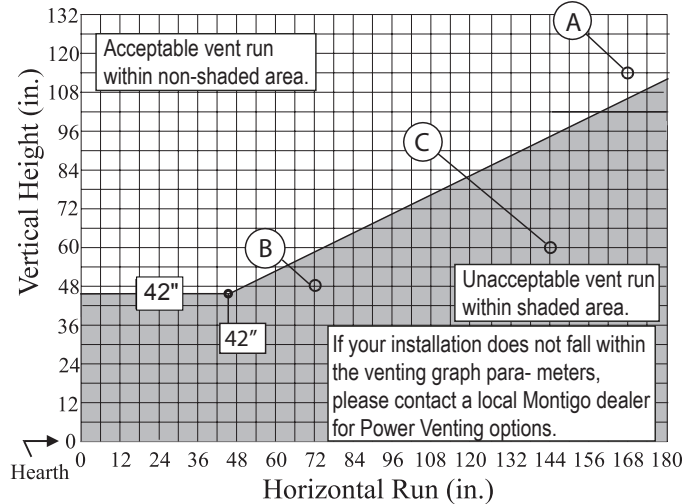

Figure 12. H*38DF* Top Vent Venting Graph for wall mounted terminations.
- Once the proposed venting layout has been determined refer to **Figure 12 or 14** to ensure the layout is acceptable.
- Venting runs *must* fall within the limits set by the venting graph, see **Figure 12**.
Measure the vertical height from the fireplace hearth to the centre of the termination and the horizontal run from the fireplace flue collar to the wall flange of the termination. Plot on the Venting Graph **Figure 12** with an 'X'. If the 'X' falls on or above the top boundary of the shaded area, the installation is acceptable.
Figure 12a. Top Vented, wall mounted installation with one 90° bend. The vent run must comply with Venting Graph for Top vent, wall mounted terminations, Figure 12.